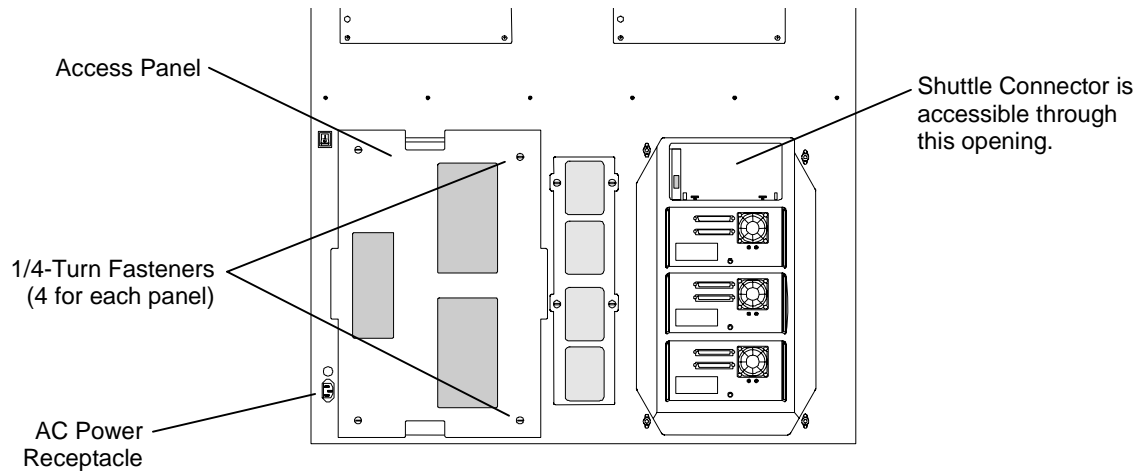

Figure 7-81 Rear of TLS with Access Panel Removed
2. Use a flat bladed screwdriver to loosen all four of the quarter-turn fasteners on the access cover on the right side of the library when looking at it from the rear (Figure 7-81). Carefully remove the access cover.
7. Align the Drive Access Panels four quarter-turn fasteners with the corresponding receptacles on the rear panel, then fasten it by turning the quarter-turn fasteners clockwise (Figure 7-81).